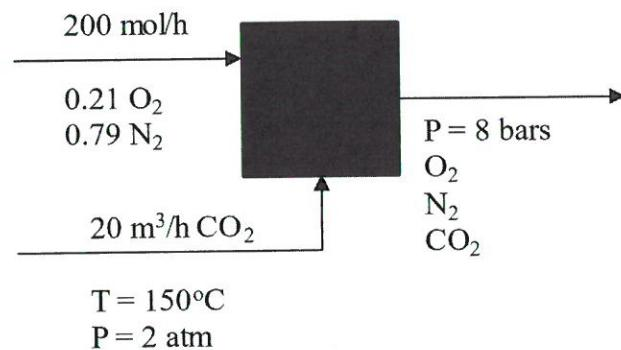

Figure 3(c)/Rajah 3(c)
- (c) A stream of air (21 mole% and the rest is N₂) flows at a rate of 200 mol/h and it is mixed with a stream of CO₂ at a rate of 20 m³/h at 150°C and 2 atm. Then, the mixture gases are stored in the container at absolute pressure of 8 bars. By assuming the ideal gas system and use gas constant, R = 0.08206 atm.L/mol.K. The block flow diagram as shown in Figure 3(c).